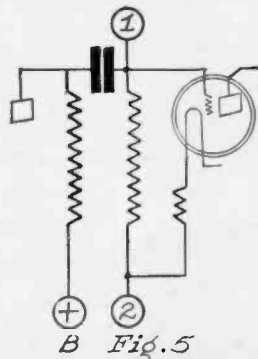
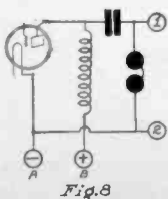
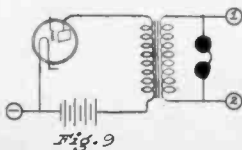

Fig. 5
Fig. 8
Fig. 9
- Fig. 5. Illustrating the use of the vacuum tube voltmeter for measuring the voltage input to a tube in a resistance coupled amplifier.
Figs. 5, 6, and 7 show how to measure the input voltage to an amplifier in the three different types of direct coupled amplifiers. Fig. 8 shows how to apply the voltmeter to the measurement of the output voltage of a radio receiver, that is, the voltage across the loud speaker. In this case it is necessary to separate the AC component from the DC component of the plate current, since only the AC is of immediate interest. Fig. 9 shows how to measure the voltage across the loud-speaker when an output transformer is used for separating the DC from the AC.